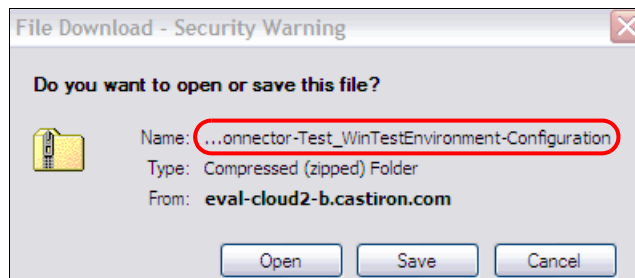

Figure 2-35 WebSphere Cast Iron Live downloading the configuration for Secure Connector
3. Save the file on your local environment. Notice that the name of the file has the environment name and also the connector name (in this example SecureConnector-Test\_WinTestEnvironment-Configuration), as shown in Figure 2-35.